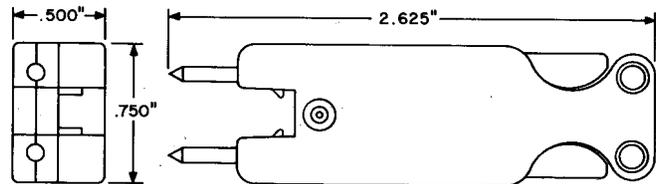

Fig. 11—526A Plug
2.11 **526A:** The 526A plug (Fig. 11) consists of three matching white plastic shell sections, two plastic clamps, a spring, and two contact assemblies. The 526A plug forms part of the P2FL cord for use in the 306- and 307-type connectors.